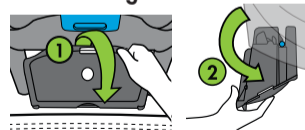

Figure 30
Grasp front edge of LATCH Bin (1), and rotate it away from the Carrier (2), as shown in **Figure 30**.